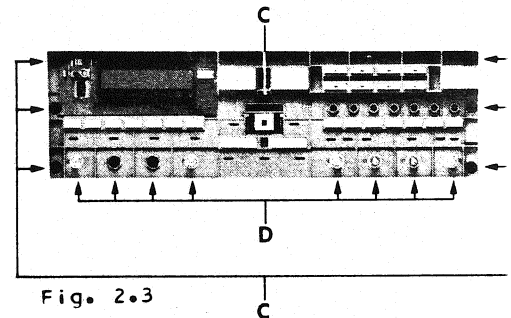

Fig. 2.3
2.5 Removing the operating panel (Figs. 2.3 and 2.4)